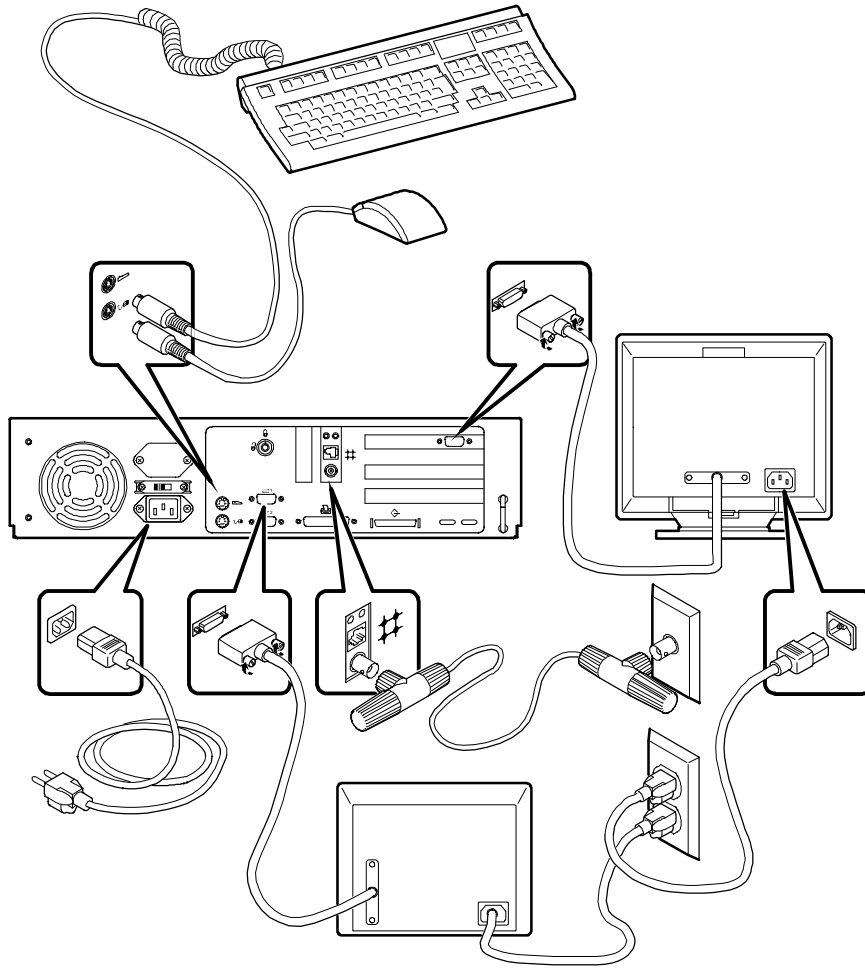

Figure 2-4 Connecting Cables and Power Cords
3. Connect the mouse, keyboard, video cable, and power cords to the system components, as Figure 2-4 shows.
- The **graphics** terminal attaches to the graphics adapter card on the back of the system. (This terminal is shown on the right side of Figure 2-4.) The “console” environment variable should be set to “graphics.”
- The **serial** terminal attaches to the COM1 port on the back of the system. (This terminal is shown at the bottom of Figure 2-4.) The “console” environment variable should be set to “serial.”